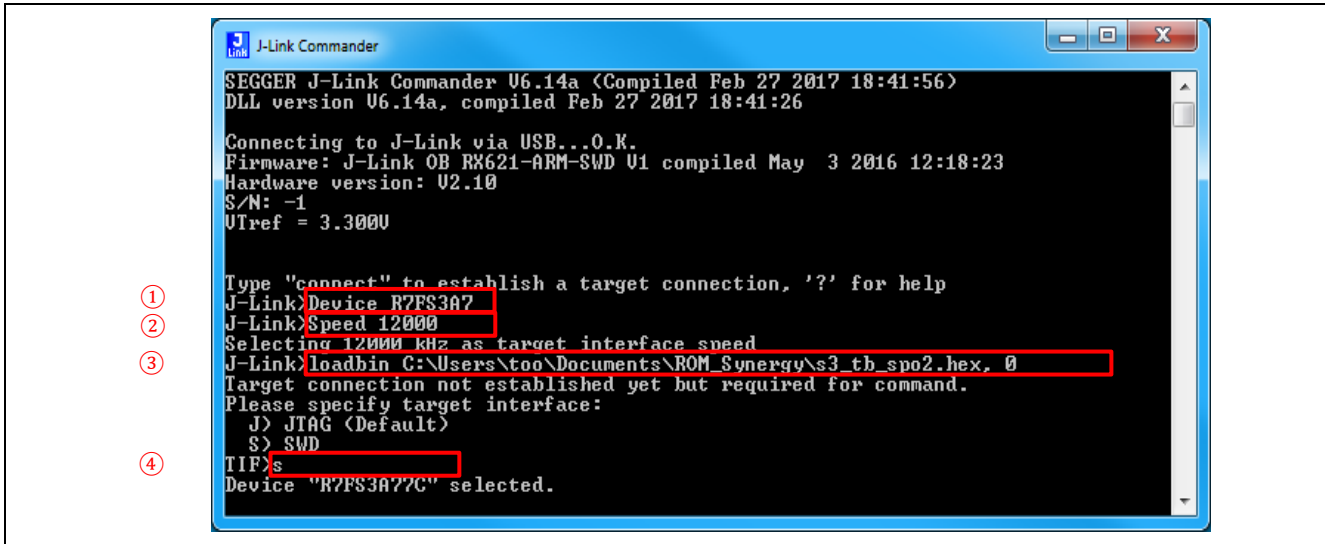

Figure 15 J-Link Commander at command prompt Windows
4. Enter the following commands to program the board (see Figure 15).